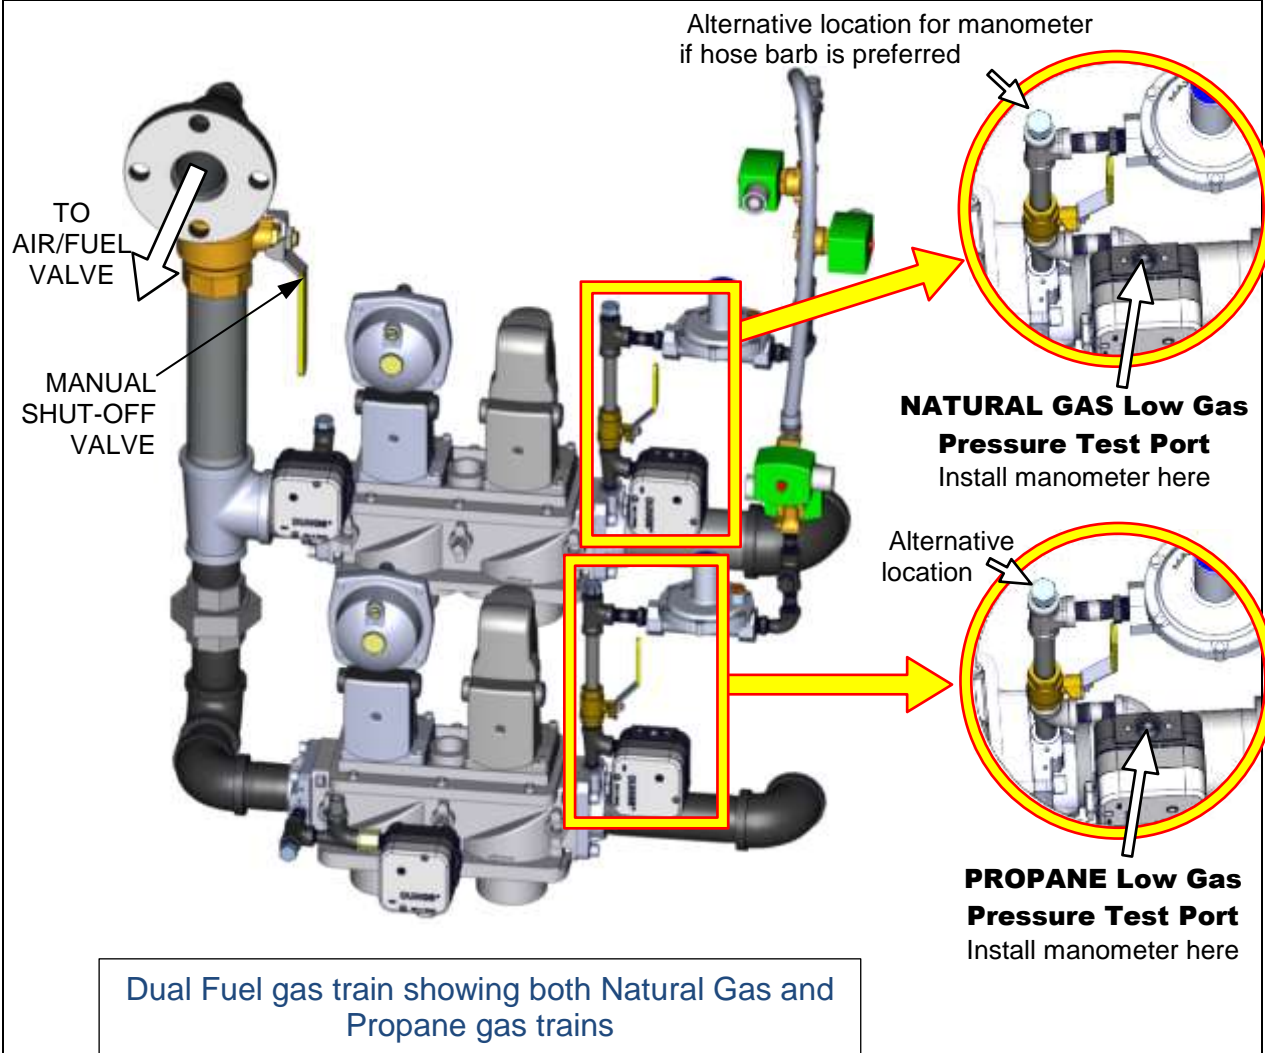

Figure 5-1: Low Gas Pressure Switch Locations & Test Ports
The steps and pressure setting required to check the Low Gas Pressure switch are described below. This switch is in the normally open (N.O.) position. Refer to Figure 5-1 for the location of the switch and where to connect the water column manometer/gauge when performing the test.
3. Locate the port on the top of the Low Gas Pressure switch (see Figure 5-1) and loosen the screw inside a few turns to open it. Do not remove this screw completely. Alternatively, you can remove the 1/4 inch plug shown in Figure 5-1 and install a hose barb fitting in that location.
15. For Dual Fuel units, repeat the previous procedure on the PROPANE gas train, starting with the PROPANE Low Gas Pressure Switch, shown in the bottom-half of Figure 5-1.